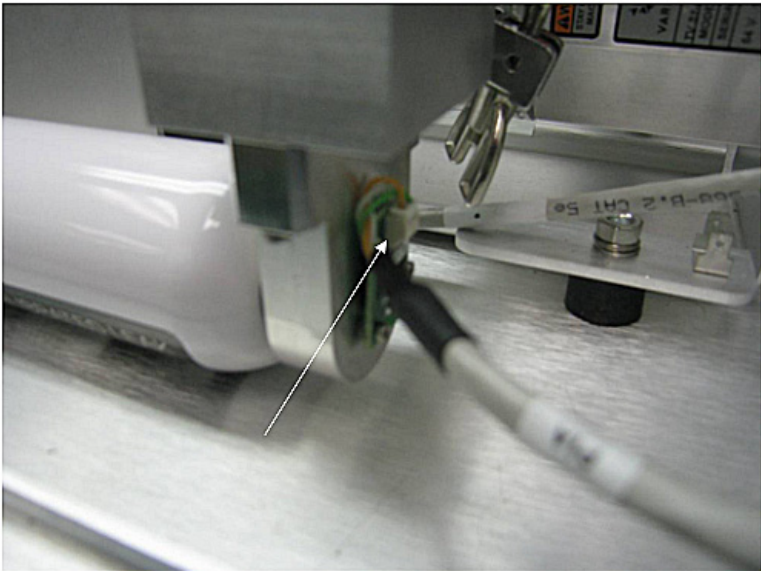

Figure 2: Cable to Calibrated Leak Connection
4. Disconnect the cable from the calibrated leak board (Figure 2: Cable to Calibrated Leak Connection).